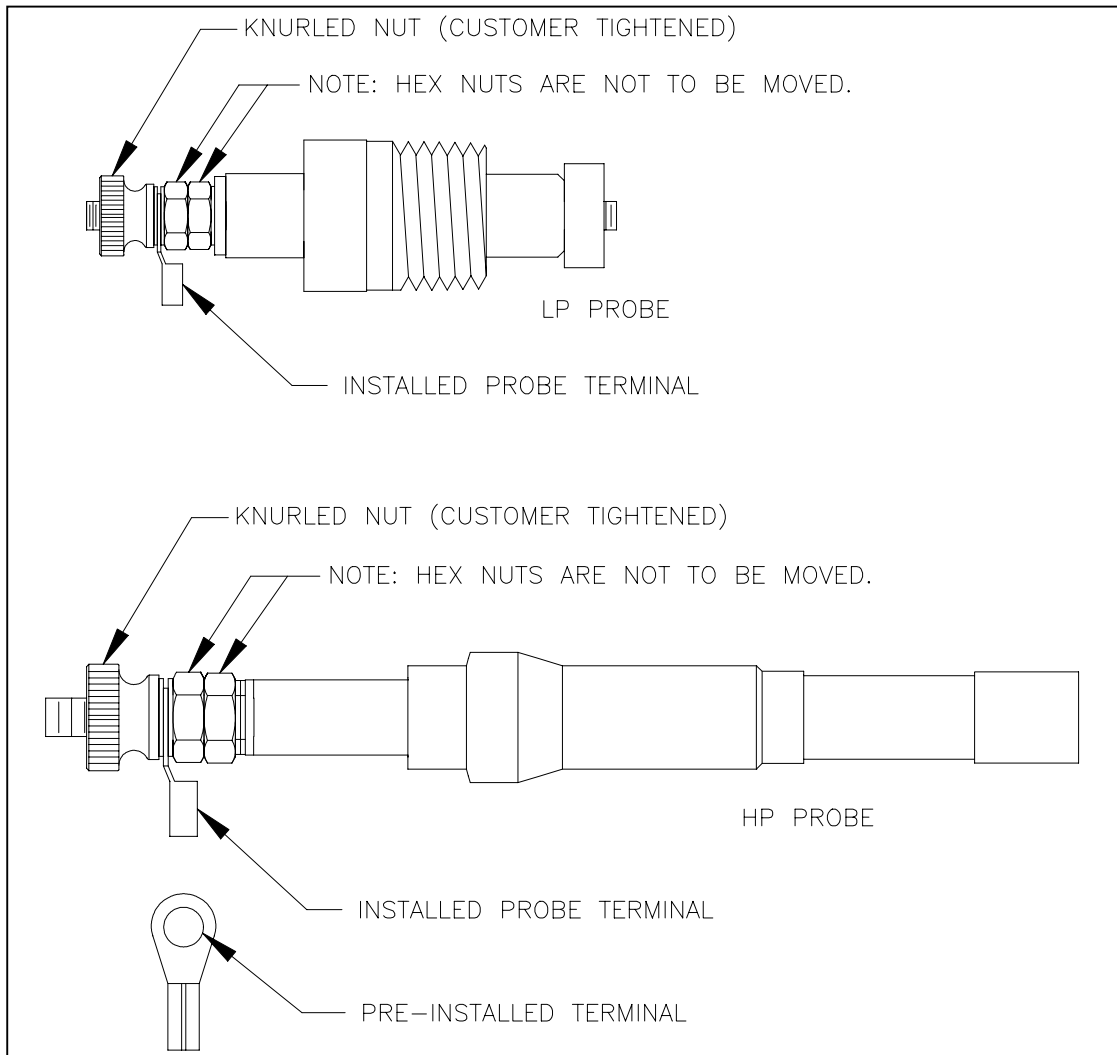

Figure 1 – Probe Assembly
For all other applications, probes with the zirconium oxide (ceramic) insulators must be used. The high pressure (HP) probes are easily recognized by the brazing between the insulator and the body (fig 1). The two styles of probes are not interchangeable and will not fit in a receptacle designed for the other, the LP probe uses a threaded fitting, the HP a compression fitting. In this I.O.M., all instructions address the HP style probe (see figure 1). Refer to the water column I.O.M. for details on both the HP and LP probes.